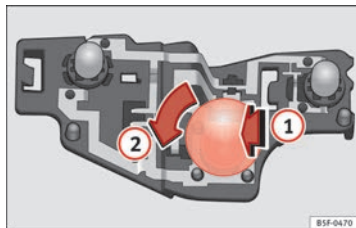

Fig. 201 Position of the bulbs in the bulb holder
- Lightly press the defective bulb into the bulb holder ⇒ Fig. 201 ①, then turn it to the left ② and remove it.